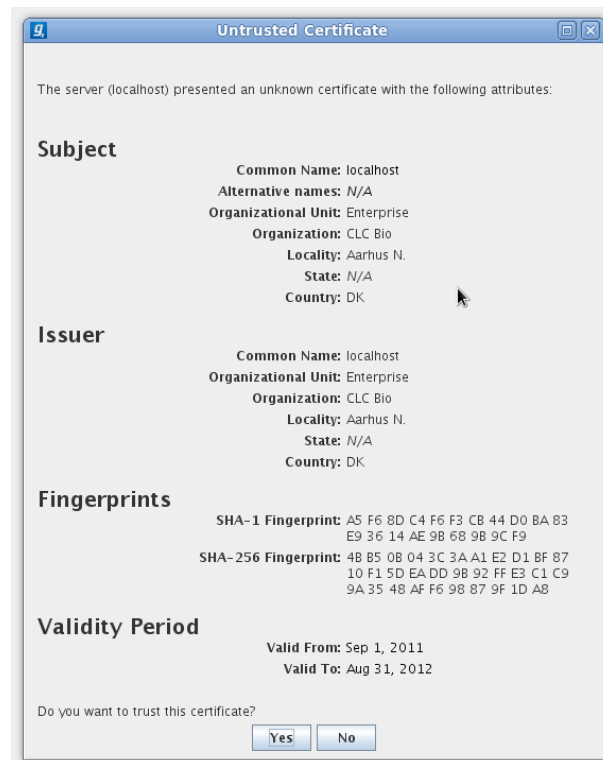

Figure 15.3: A warning is shown when the certificate is not signed by a recognized CA.
If SSL is detected, the server's certificate will be verified and a warning is displayed if the certificate is not signed by a recognized Certificate Authority (CA) as shown in figure 15.3.